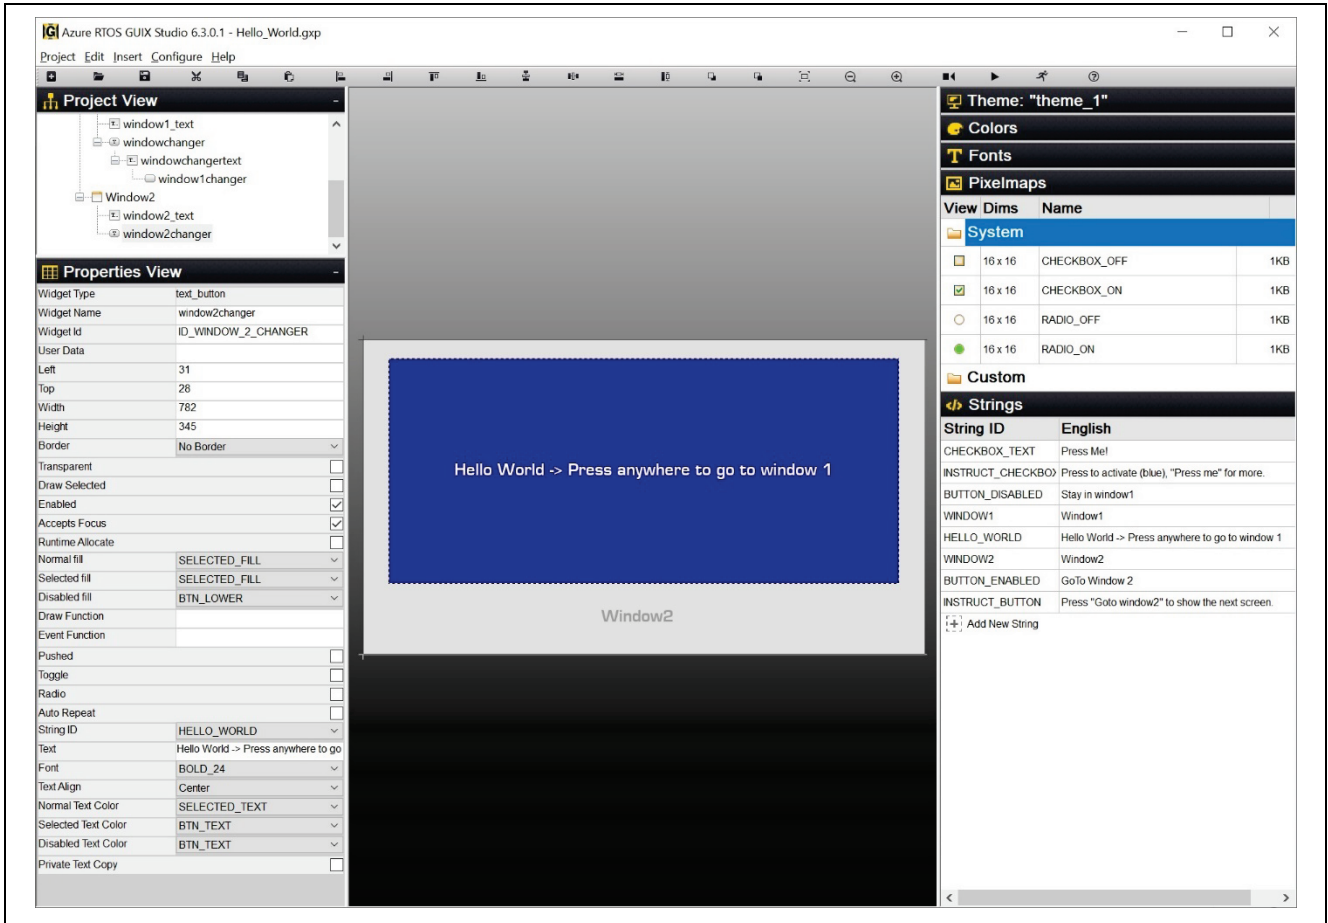

Figure 69. Window2
29. After completing inserting and configuration, window2 looks like **Figure 69**.